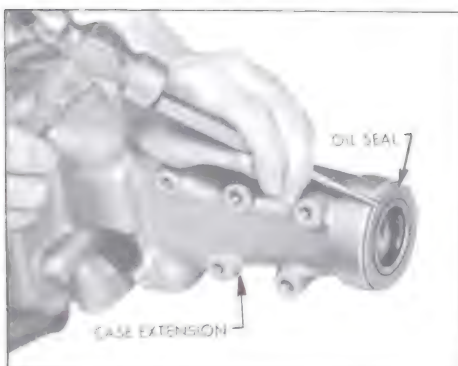

Figure 4-81—Extension Oil-Seal Removal
3. Remove case extension oil seal. See Figure 4-81.